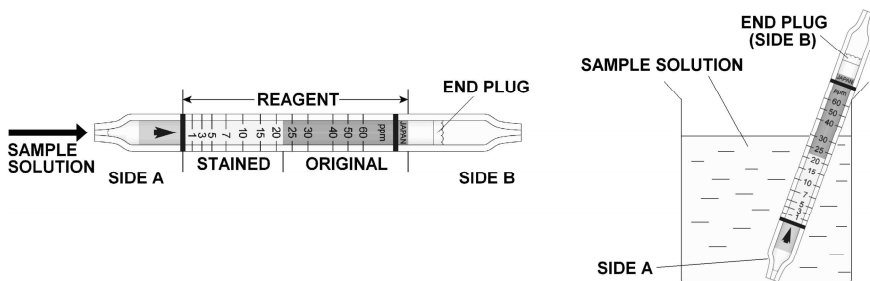

Fig.1
- ② Immerse the end of the tube with side A into the sample solution to draw it up by capillary action as shown in Fig.1. (Arrow mark shall point to the surface of the sample solution.)
- ③ When the sample rises up to the end plug (side B), remove the tube from the sample solution.
- ④ Read the scale at the maximum point of the stained layer.
- ⑤ When the concentration of sample solution is over the 60ppm (full scale), dilute the sample solution accurately (by some ratio) with distilled or purified water and measure the sample solution and multiply reading value by the dilution ratio.